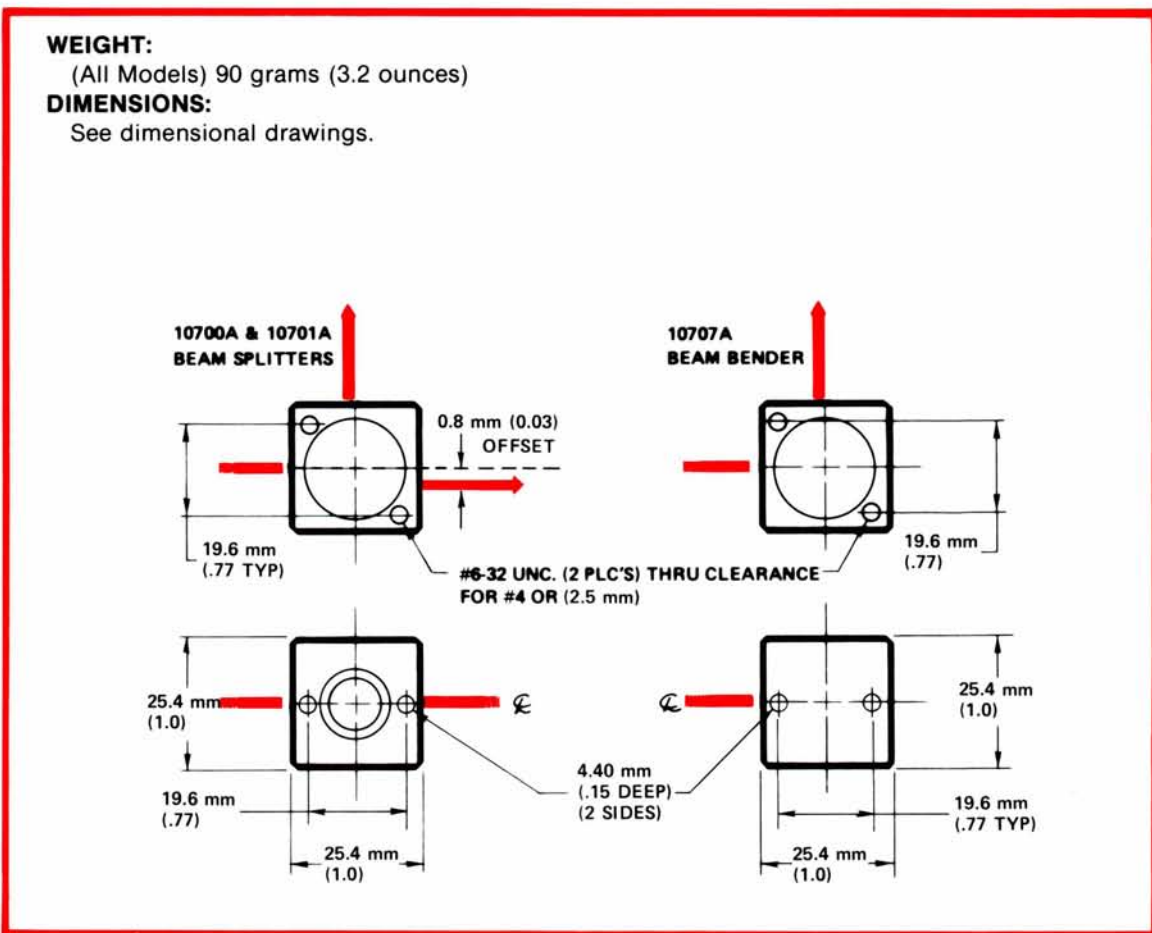

Figure 2-18. Splitting and Bending Optics (10700A, 10701A, and 10707A) Specifications
The thickness of the 10711A mount is such that the beam centerline corresponds to the lower part of the 10701A or 10706A interferometers. To be in line with the center of the interferometer a spacer 6.4 mm ($\frac{1}{4}$ inch) thick has to be added to the laser head, or to be in line with the upper part, a 12.7 mm ($\frac{1}{2}$ inch) spacer is needed. Also remember as the beam goes through a beam splitter, the exit beam is slightly offset downward (or to the side if the beam is bent in the horizontal axis) by 0.8 mm (.03 inch). See *Figure 2-18*.
- a. Splitting and Bending Optics (10700A, 10701A, and 10707A) Specifications, see *Figure 2-18*.